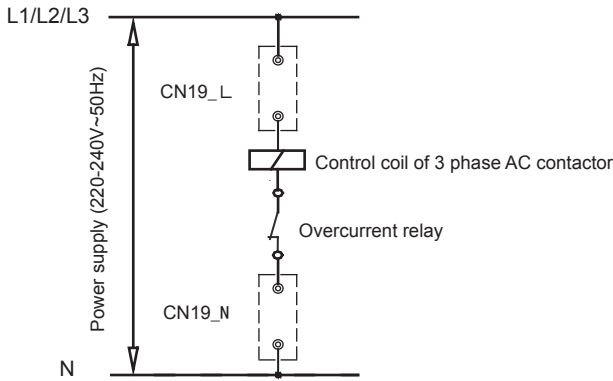

Fig. 8-22-1
- Step 9. MC-SU30-RN1L and MC-SU60-RN1L connection of control wires of auxiliary electric heaters: the control wires of AC contactor of the auxiliary electric heater must pass the connection terminals CN19\_L and CN19\_N of the main unit, as shown in Fig. 8-22-1.